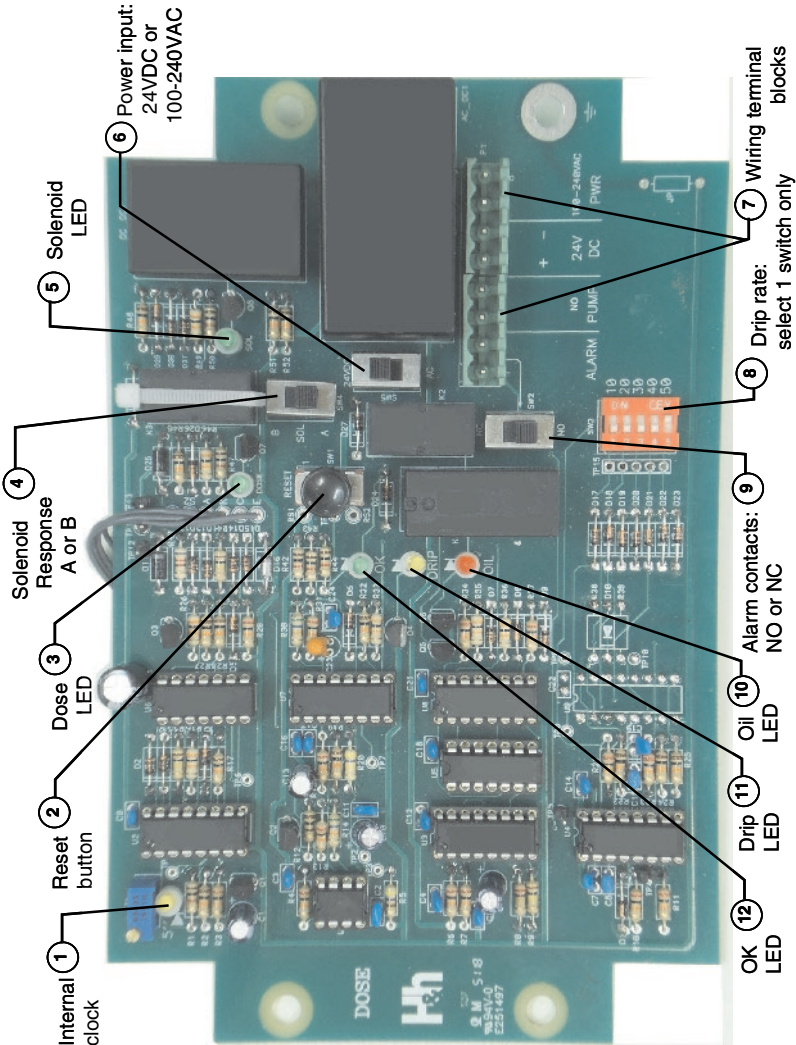

Figure 8: DripDoser – PC board layout
Switch and indicator locations on the DripDoser PC board are shown below. Refer to Figure 8.
1. Select the required number of drops/minute (dpm) on the drip rate switch SW3. Refer to Figure 8.
1. By removing the DripDoser cover and pressing the Reset push button (see Figure 8).